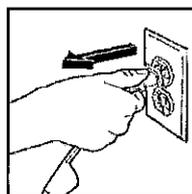

Fig. 39
- Turn the unit off and unplug the electrical cord (Fig. 39).